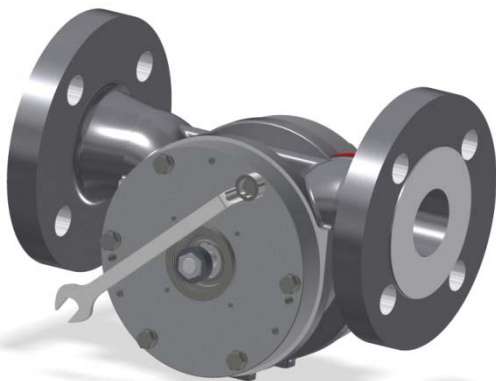

Figure 27 – Removing the bolts of the front cover
2. Remove the front cover mounting bolts and lock washers, as shown in Figure 27.